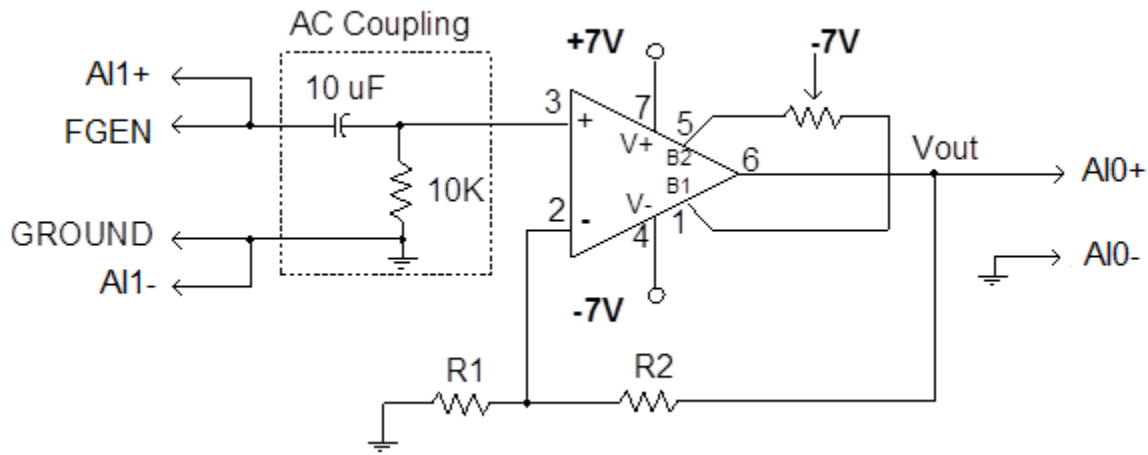

Fig. 7. Non inverting amplifier with AC coupled input and offset compensation resistor
1. The non-inverting amplifier designed in the pre lab (as shown in Fig. 5) will be used to understand the finite GBW limitation of the Opamps. Since the gain of the non-inverting amplifier is very large (around 61 or 35 dB), very small DC offsets in the amplifier will produce large DC output offset voltage. Hence we will use offset calibration scheme (used earlier in Lab 3, Fig. 6) to calibrate the Opamp offsets. So, connect the circuit as shown in Fig. 7.
2. You would also notice that we have used AC coupling from the NI Elvis signal source to the Opamp input in Fig. 7. This eliminates the DC offsets coming from the signal source and only the AC voltage swing generated by the signal generator (from Elvis) will be applied to the Opamp input terminal. The ac coupling circuit behaves like a high pass circuit with a corner frequency of around 1.6 Hz and will be transparent for higher frequency ( $> 1.6$  Hz) operation. The potentiometer (**20k**) as shown in Fig. 7 between terminals 1 and 5 is for offset calibration. Make sure the wiper of the potentiometer is connected to  $-7V$  supply. We will use this potentiometer to trim the offsets coming from the Opamp.